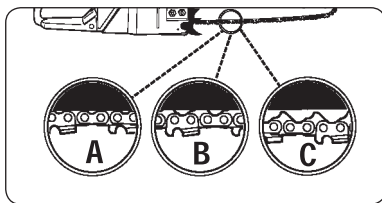

Fig. 6
CAUTION: If saw chain is too loose or too tight, the sprocket, bar, chain, and crankshaft bearings will wear more rapidly. Study Fig. 6 for information concerning correct cold tension (A), correct warm tension (B), and as a guide for when saw chain needs adjustment (C).